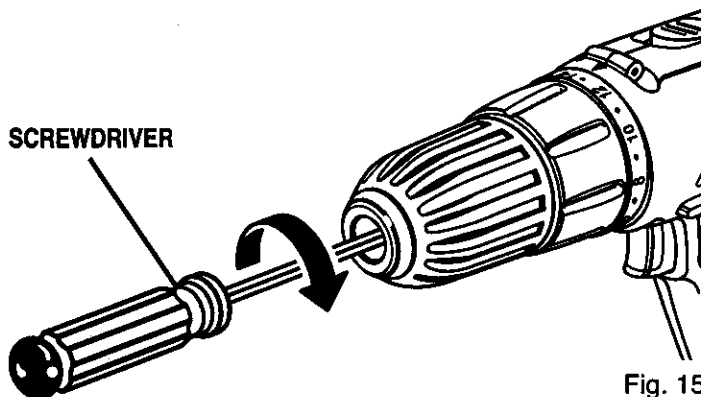

Fig. 15
- Open chuck jaws and remove hex key. Remove the chuck screw by turning it in a clockwise direction. See Figure 15.